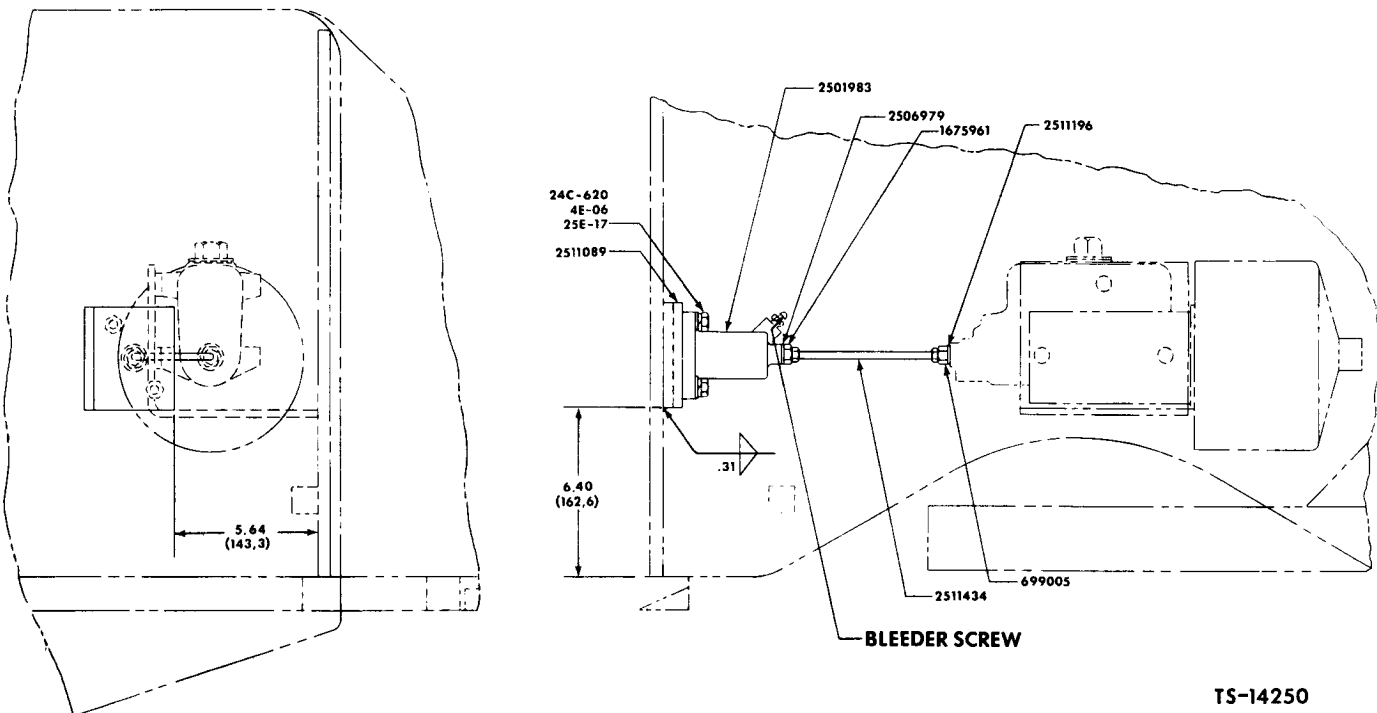

Figure 3
5. Weld 2511089 Mounting Plate to front frame with a .31 inch fillet weld on two sides as shown in Figure 3.
6. Install 2501983 Compensator Valve on mounting plate as shown in Figure 3 using two 25E-17 Flatwashers, two 4E-06 Lockwashers and two 24C-620 Bolts. Tighten bolts to 23-25 ft. lbs. torque.
8. Install 2506979 Gasket and 1675961 Adapter on brake compensator valve as shown in Figure 3.